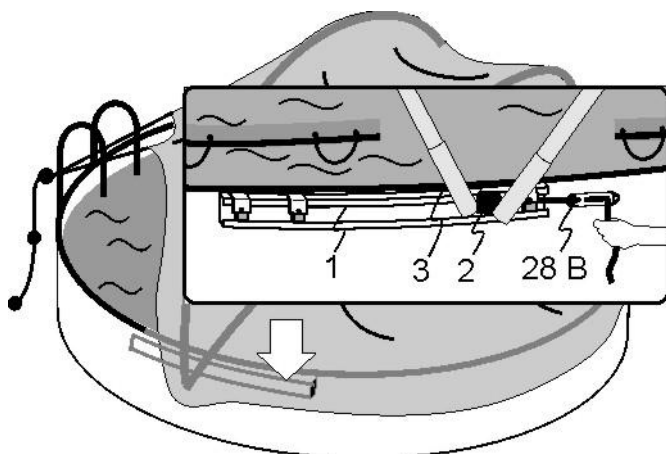

Abb. 7.3
- Fasten the rope (4) of plastic block (2) to the fastener (28/B) to prevent sliding of the plastic block while pulling Cabrio Dome over the swimming pool. (fig. 7.3)
- Pull the Cabrio Dome with pulling rope (18) over the swimming pool and hang it over swimming pool stairs (fig. 7.3)